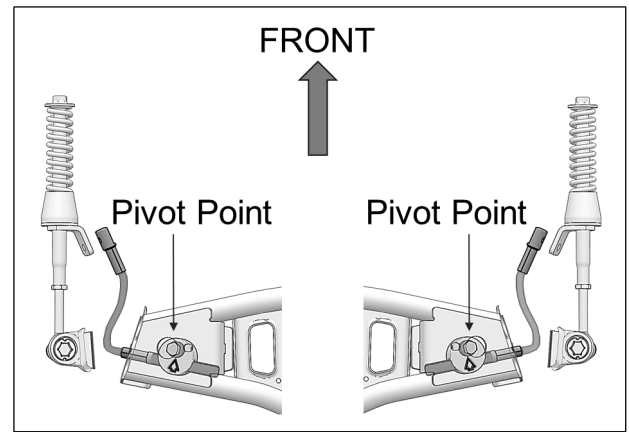

Fig. 18
- Make sure aluminum disk pivot point is installed in front of steering limiter cable. See Fig. 18